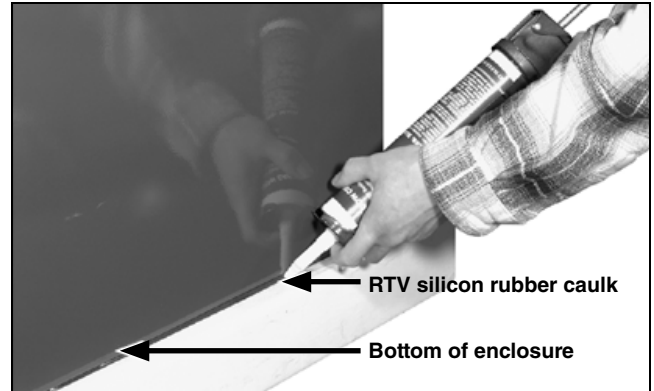

Figure 47. Caulking around the bottom of enclosure.
- STEP 1.** Caulk around the bottom of the enclosure; a weatherproof silicon-rubber room temperature vulcanizing (RTV) compound is recommended. See Figure 47.